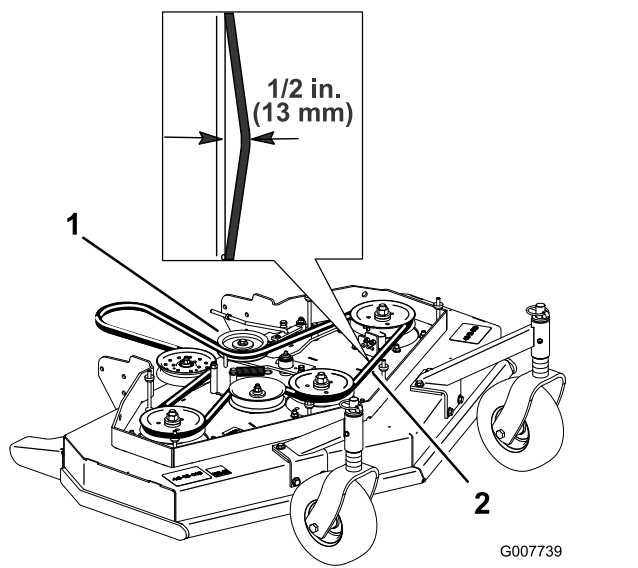

Figure 7
4. Remove the idler pulley and the worn belt (Figure 7).
Note: The proper mower belt tension is 44 to 67 N (10 to 15 lb) with the belt deflected 13 mm (1/2 inch) halfway between the pulleys (Figure 7).